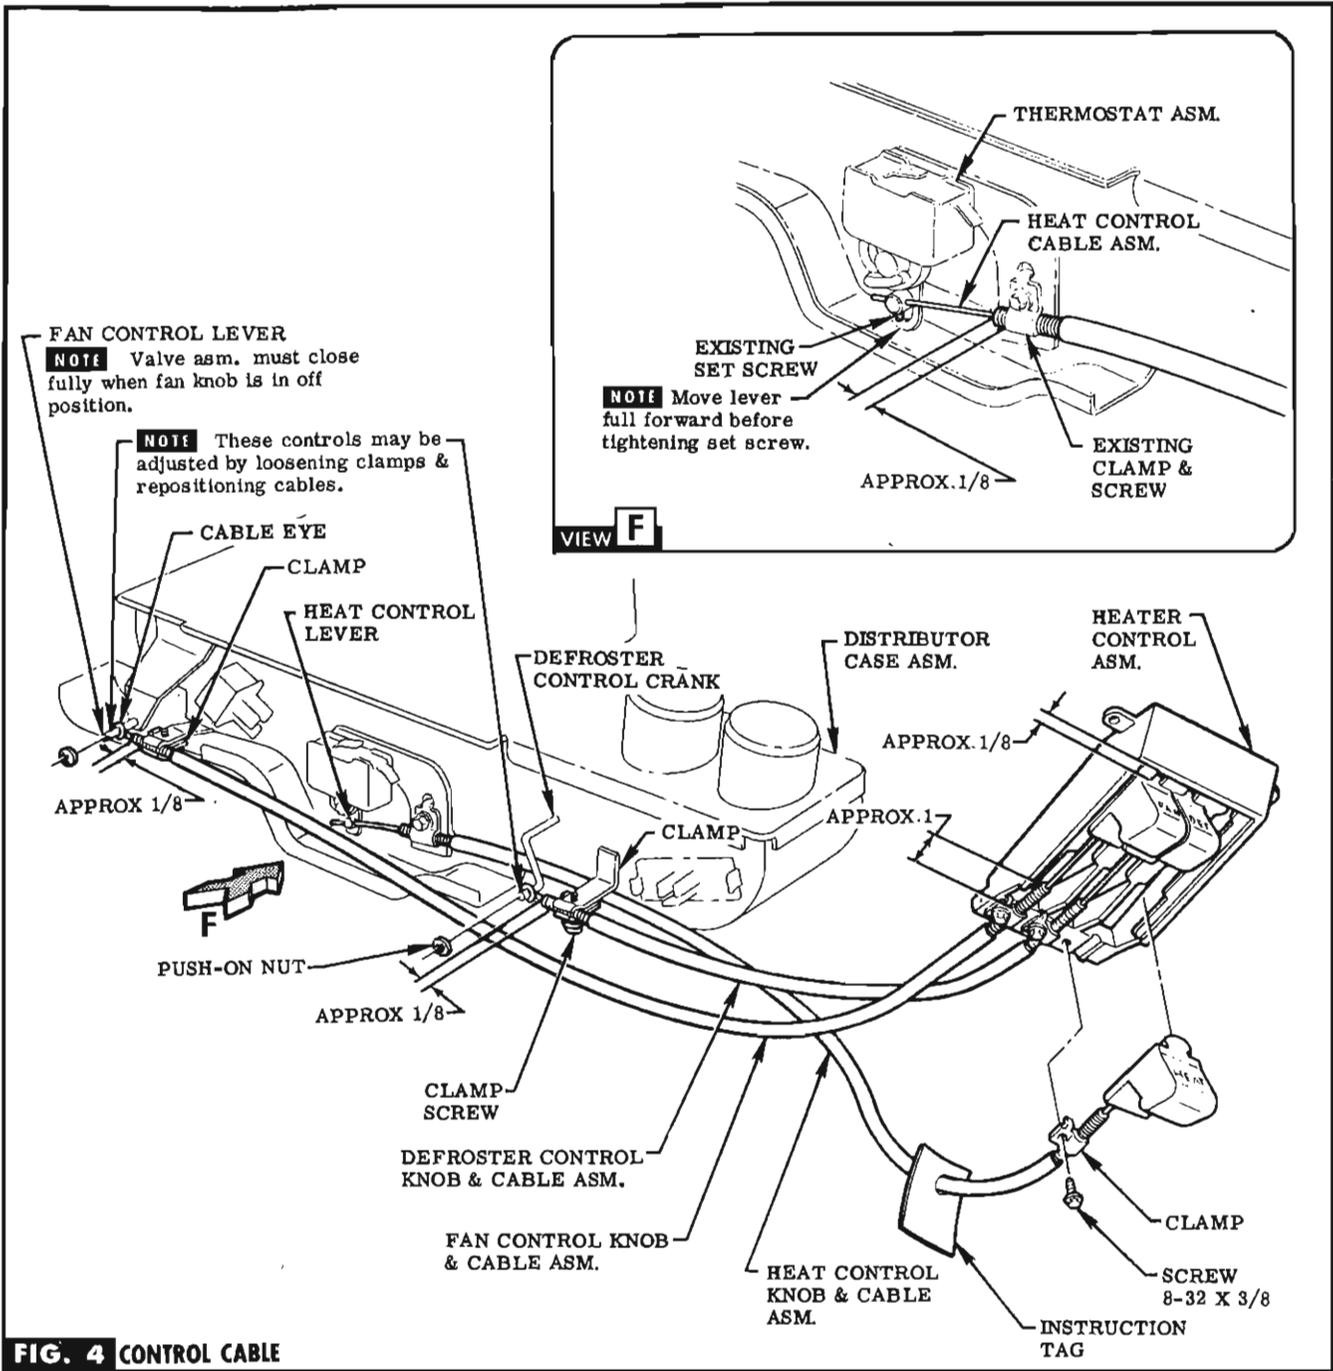

FIG. 4 CONTROL CABLE
STEP 24 INSERT FAN, DEFROSTER & HEAT CONTROL KNOB & CABLE ASSEMBLIES INTO SLOTS OF HEATER CONTROL. SLIDE CABLE SHEATHS UP INTO SLOTS & SECURE TO DIMENSION SHOWN WITH CLAMPS & SCREWS (IN BAG A). SEE FIG. 4.
STEP 24.1 MOVE HEAT CONTROL KNOB INTO DOWN POSITION, WITHIN 1/4 INCH OF CABLE SHEATH. ROUTE HEAT CONTROL CABLE THRU LEVER (ON THERMOSTAT). SECURE CABLE TO DISTRIBUTOR WITH EXISTING CLAMP & SCREW TO DIMENSION SHOWN. MOVE LEVER (ON THERMOSTAT) FULL FORWARD & TIGHTEN SET SCREW. SEE FIG. 4 & VIEW F.
STEP 25 ROUTE FAN & DEFROSTER CONTROL CABLES TO DISTRIBUTOR. ATTACH FAN CONTROL TO LEVER & DEFROSTER CONTROL TO CRANK WITH PUSH-ON NUTS (IN BAG A). SEE FIG. 4.
STEP 26 SECURE FAN & DEFROSTER CONTROLS TO DISTRIBUTOR WITH EXISTING CLAMPS & SCREWS TO DIMENSION SHOWN. SEE FIG. 4.
STEP 27 ATTACH INSTRUCTION TAG TO HEAT CONTROL CABLE NEAR CONTROL. SEE FIG. 4.